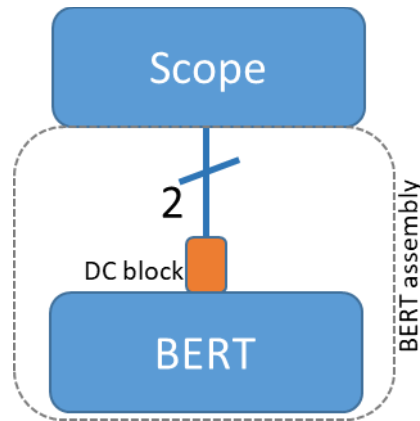

Figure 10. Test setup for BERT assembly step response extraction
1. Construct a Test setup as shown in figure 10. The coax phase matched cables shall be used in TER test setup as shown in section 4.2.3, Figure 13